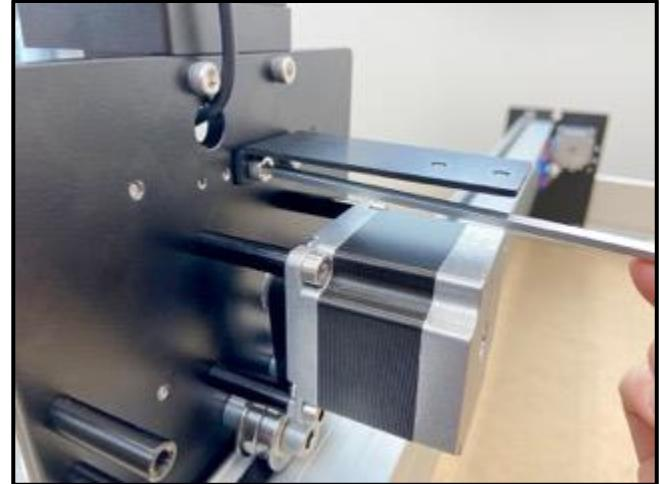

Figure 6-4
1. Gather the X-Axis drag chain head bracket (the narrower of the two black head brackets), a tail bracket (single PEM nut) and two (2) support brackets (no PEM nut).
2. Use the 3mm hex key and two (2) M5x8mm socket head cap screws to secure the head bracket to the back of the Z-Plus, just above the X-motor. See *Figure 6-4*.
3. Use the 3mm hex key and two (2) M4x6mm socket head cap screws to attach one (1) drag chain support bracket to the back of the X-rail, closest to the Y2-carriage.